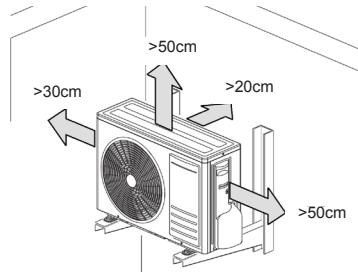
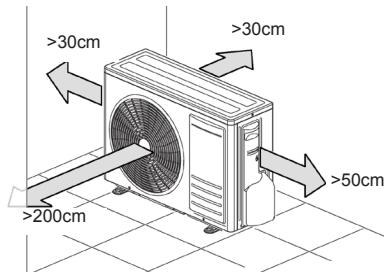

fig. 6 -
fig. 7 -
- Position it respecting the minimum distances from walls, furniture or other objects ("fig. 6 - e "fig. 7 -").